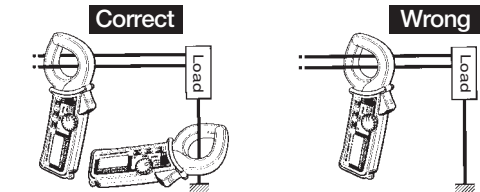

Fig. 1 Normal measurement
- (1) Set the Range Selector Switch to the desired position. Current to measure should be within the selected measuring range.
- (2) Normal measurement (See Fig. 1):